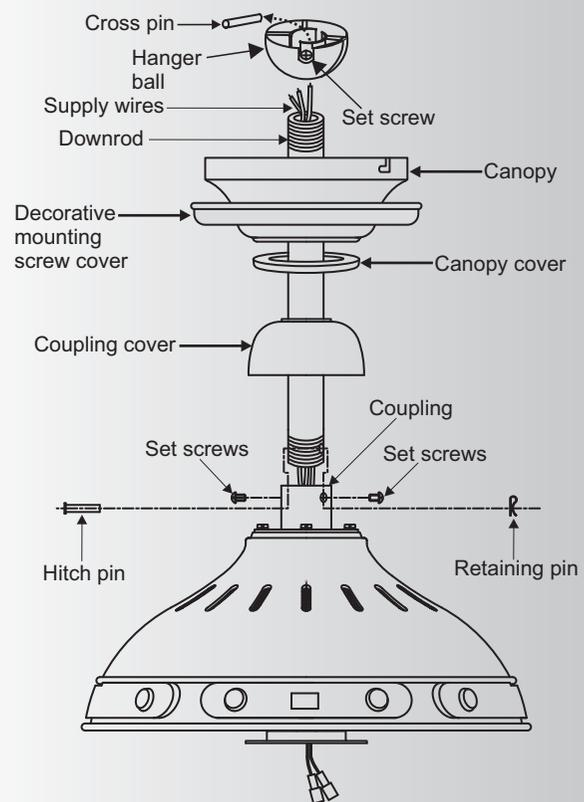

Fig. 7
Step 1. Remove the hanger ball from the downrod assembly by loosening the set screw, removing the cross pin and sliding the ball off the rod. (Fig.7)
Step 2. Loosen the two set screws and remove the hitch pin and retaining clip from the coupling on top of the motor assembly. (Fig. 7)
Next, replace the hitch pin and retaining clip. Tighten both set screws. (Fig. 7)
Thread the hanger ball onto the downrod, insert the cross pin through the downrod and tighten. Now tighten the set screw. (Fig. 7)